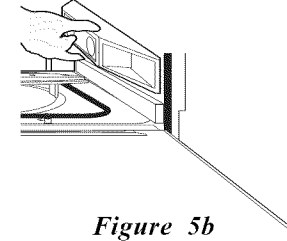

Figure 5b
- Check that the dishwasher is level from front to back by taking out the lower rack, place level on the lower rack wheel support at the bottom of the tub. See Figure 5b.